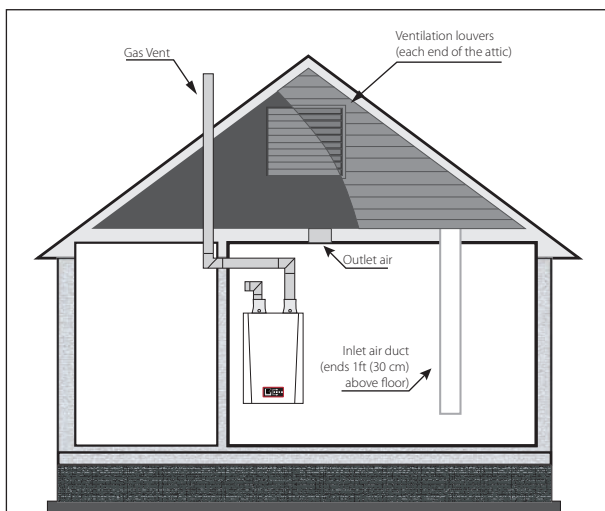

Fig. 3 - All Combustion Air from Outdoors Through Ventilated Attic
- Where directly communicating with the outdoors or where communication to the outdoors is through vertical ducts, each opening shall have a minimum free area of 1 sq. in./4000 Btu/hr of total input rating of all equipment in the enclosure. *See Fig. 3 below.*